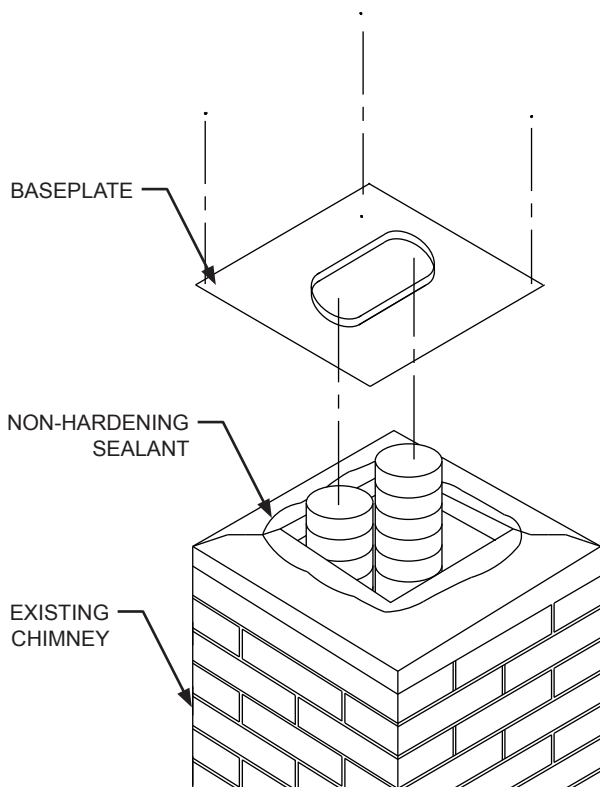

FIG. 5
Step 6. At the top of the chimney, slide the Baseplate over the two ends of the Flex Liner and secure it to the surrounding masonry using masonry anchor bolts. Before installing the baseplate, run a bead of non-hardening sealant between the Baseplate and the masonry to prevent moisture from entering the chimney (See FIG. 5).